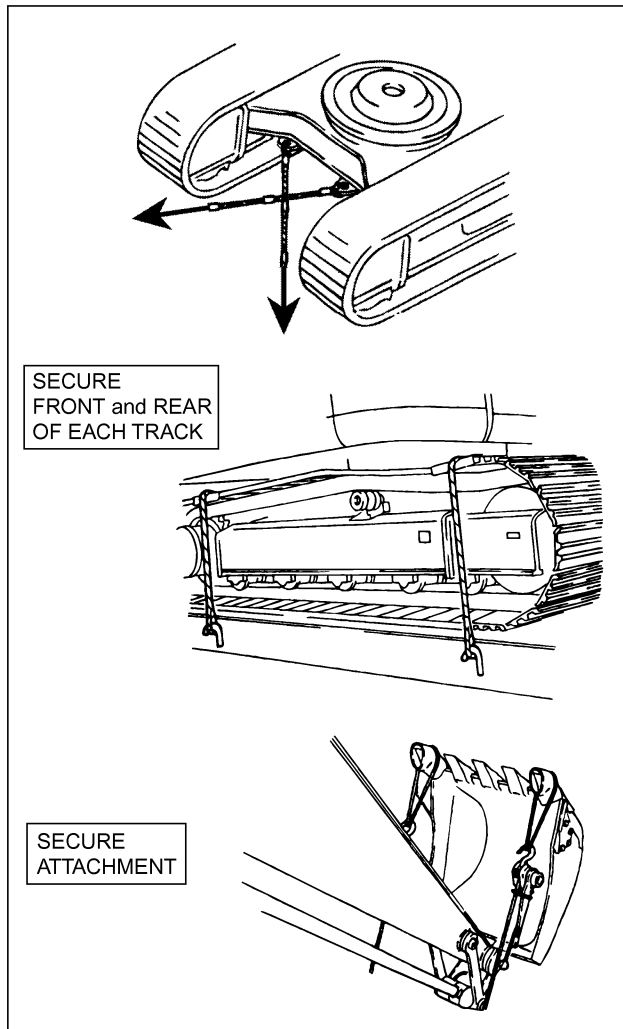

FIGURE 5.4A
- a. Use cable or wire rope with sufficient capacity to secure front and rear of the machine to trailer. See Figure 5.4A. Chock the tracks, use the lower frame front and rear brackets to secure machine to trailer. Also, make sure to secure front and rear of each track.